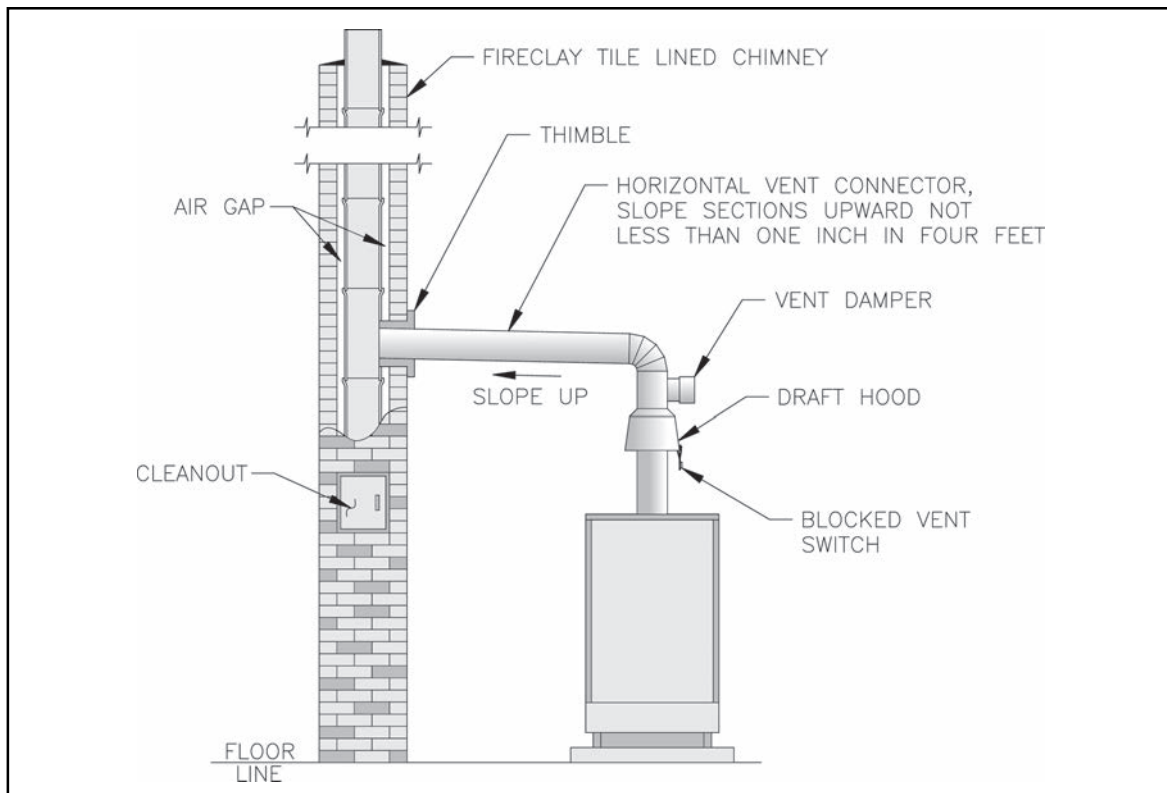

Figure 29: Typical Vent System
**F. Install Vent Connector** from draft hood or vent damper to chimney. See Figure 29. For modular or multiple boiler installations, review *"Multiple-Modular Manual for Series 8B Gas Boilers"*, P/N 8141615.